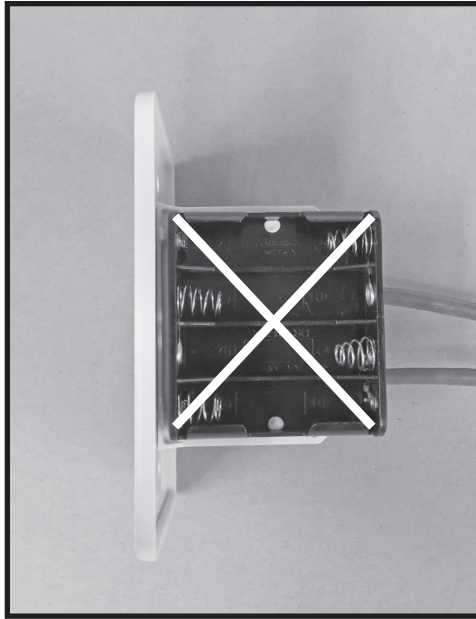

Figure 31: Do not install batteries in this wall switch.
8. **Do not install batteries into the wall switch (Figure 31). Battery holder must remain empty.**